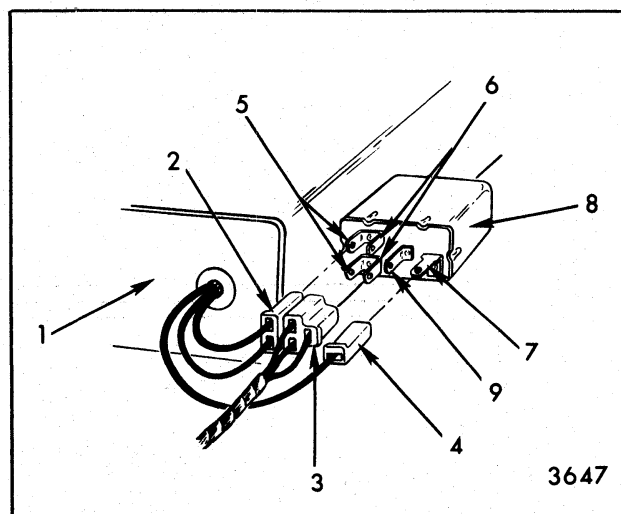

Fig. 10-28 - Seat Adjuster Motor Control Relay
1. Disengage triple connector body from seat motor relay terminal (Fig. 10-28).
1. Disconnect three motor leads (double and single connector) from relay assembly. These are wires leading from the motor to relay (Fig. 10-28).